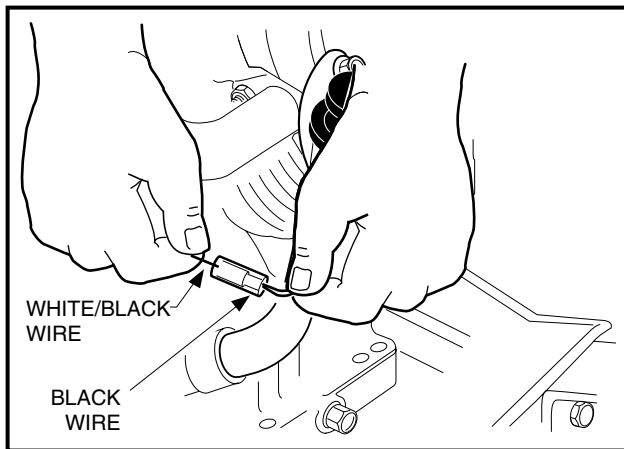

Figure 16b-105 Ignition Kill Wire
25. Connect the 6-gauge white wire to the F2 post, the 6-gauge black ground wire to the A2 post and tighten to 48 in-lb (5.4 N·m). Connect the 16-gauge yellow wire to the DF post on the starter/generator and tighten to 30 in-lb (3.4 N·m) (**Figure 16b-107, Page 16b-46**).